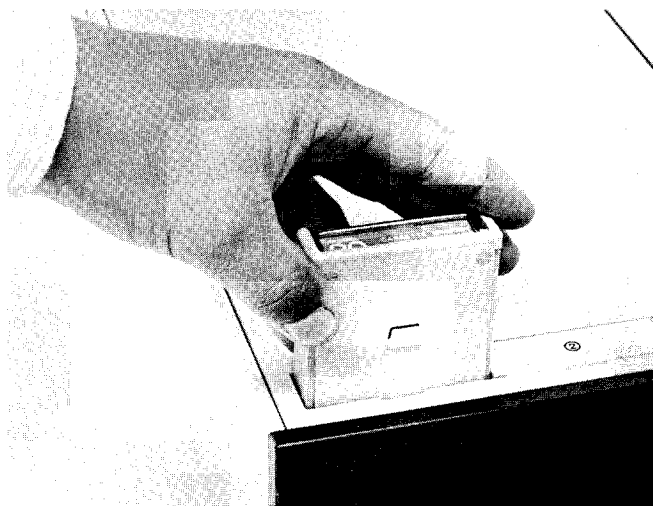

Figure 1-1. Cassette Control Block Installation
2. Position the block over the desired slot (ROM Slot 1 is recommended), such that the 'CASSETTE MEMORY' label is readable from the front of the calculator (see Figure 1-1). Push the block straight down until it is firmly seated.